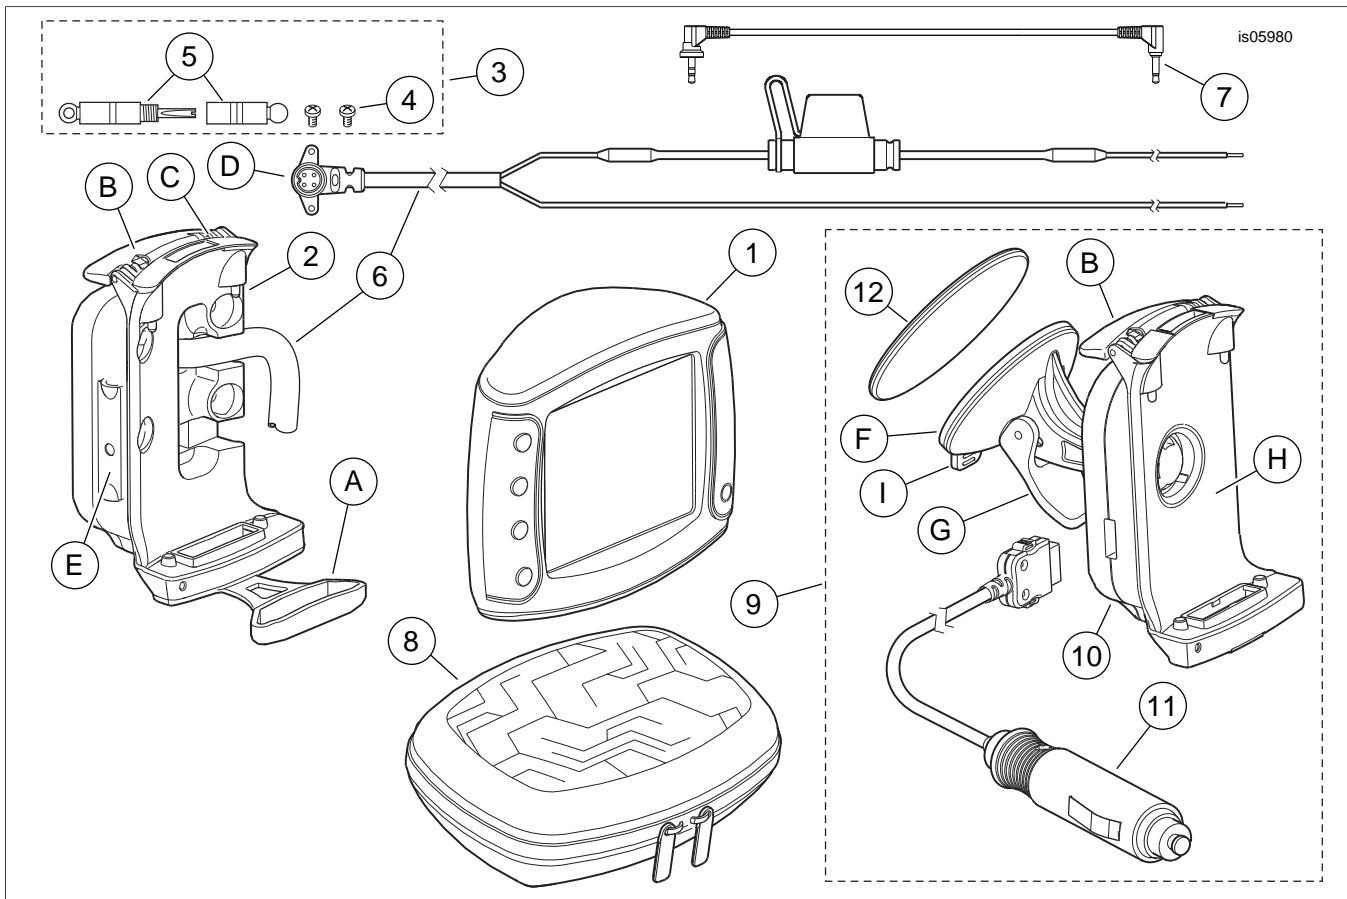

Figure 1. Service Parts, Road Tech Zumo GPS Kit
See Figure 1 and Table 1.
1. See Figure 1. Obtain the Road Tech Zumo unit (1) from the kit.
2. Flip the lever (B) on the cradle mount (10) up.